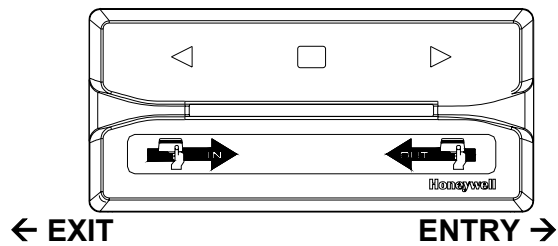

*Figure 20. Closing the Terminal*
4. Fasten the cover with the two special screws (see Figure 20) located on the side of the terminal (use a TORX anti-tamper TX10 screwdriver).